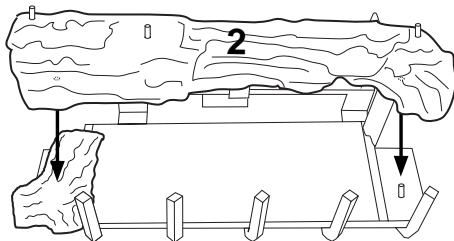

Figure 41- Installing Log No. 2
2. Rest left side of log #2 (front log) onto top of log #1. Place right side of log onto second pin located on right side of grate (see Figure 41).